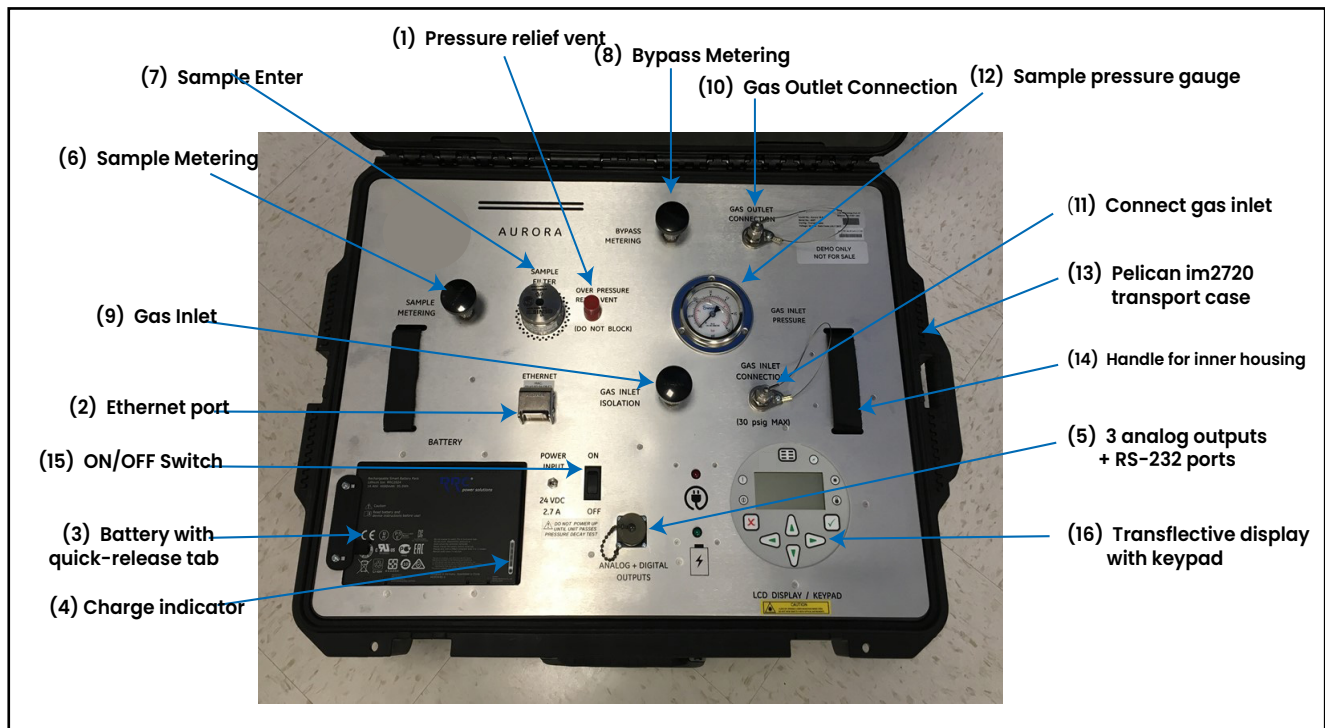

Figure 4: Front Panel of Panametrics Aurora TransPort
Refer to *Figure 4* below to locate components referenced in the startup guide.
1. Ensure the Pelican transport case (13) is lying flat and horizontal on a stable surface before opening the cover.
2. Install the Li-ion battery shipped with the unit into battery slot after loosening tab (3) on left with orientation as shown in *Figure 4*.